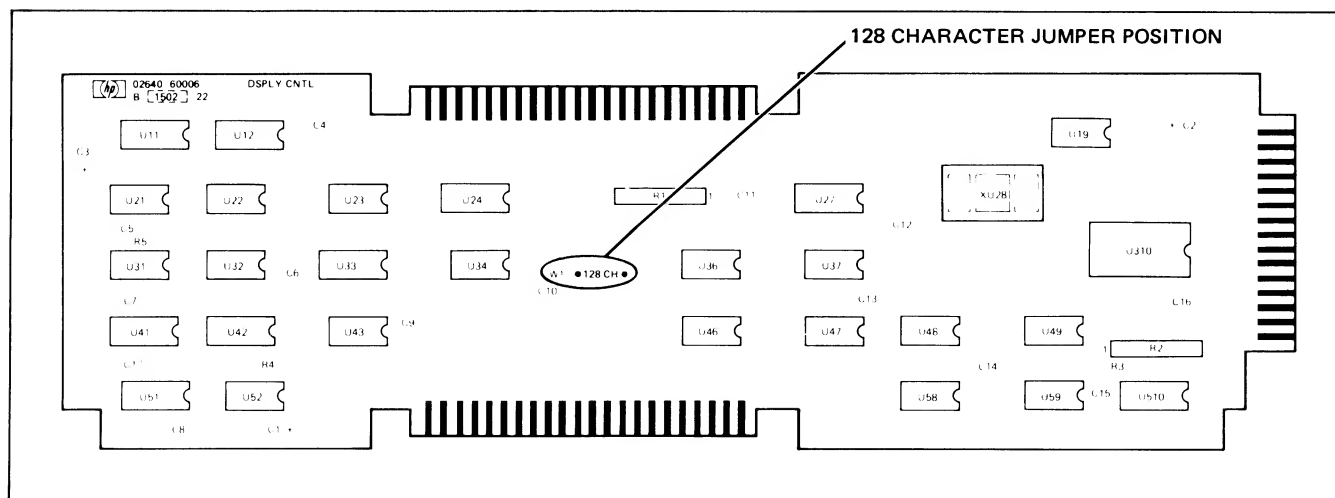

Figure 7-5. Display Control PCA Component Locations
4. () Using figure 7-5 as a guide, locate the 128 CH jumper W1 position and solder in a jumper. (If the board uses a jumper socket or switch, insert a jumper or make the proper setting.)